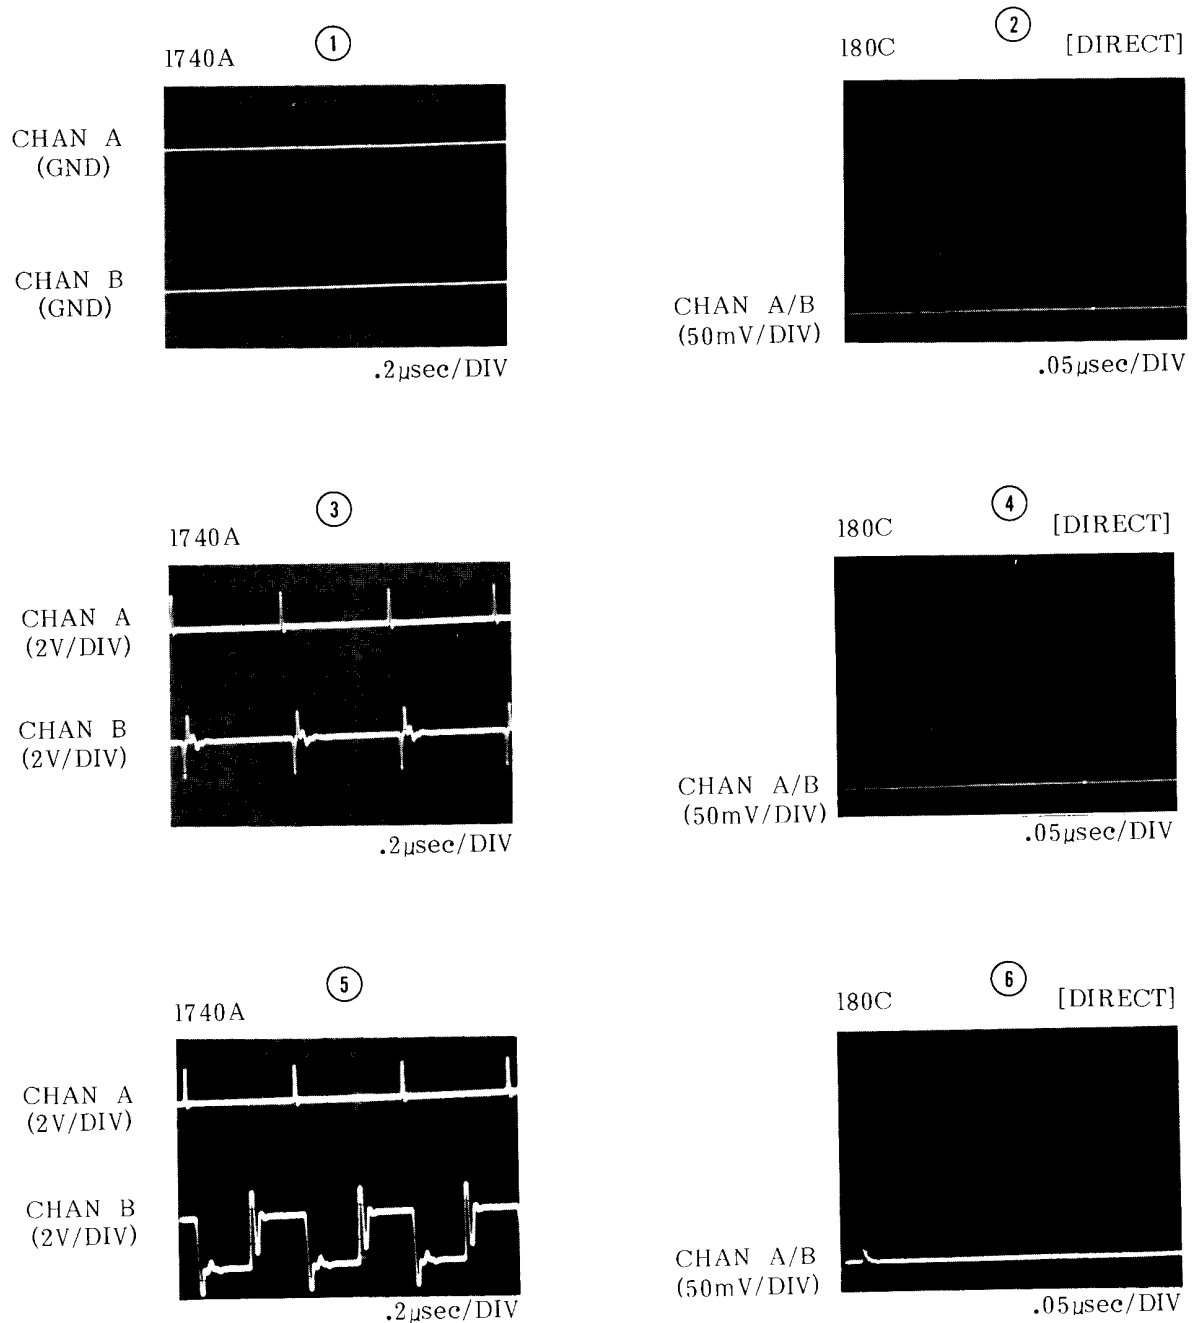

Figure 5-10. Scope Displays (Sheet 1 of 2).
10. Set the 1811A's TIME/DIV switch to EXPANDED, and adjust the POSITION control knob until the I CHANNEL and V CHANNEL sampling pulses are displayed on the 180C as shown in ① of Figure 5-10.